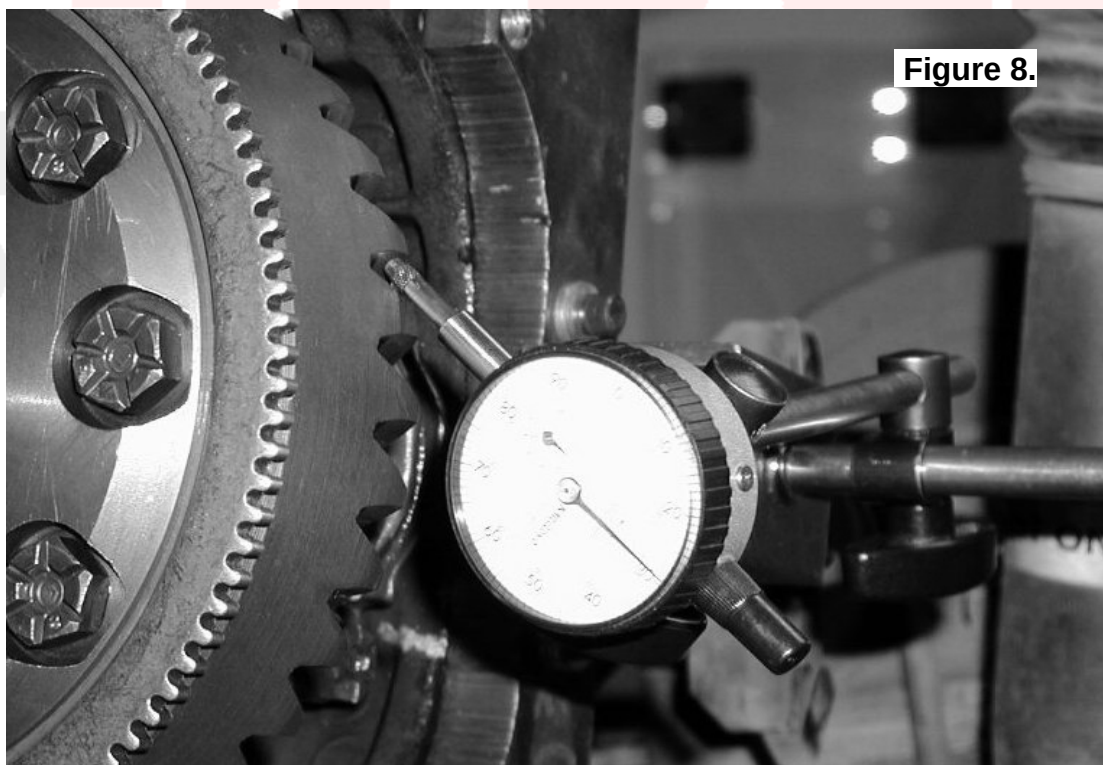

Figure 8.
- ☐ Set a depth indicator on one of the ring gear teeth (Fig.8.).